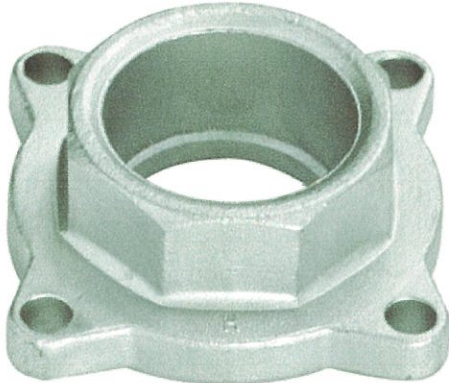

Figure Q2 (a)
- (b) Value engineering (VE) is a systematic method to improve the "value" of goods or products and services by using an examination of function. Value, as defined, is the ratio of function to cost. Predict and explain **FIVE (5)** impacts by extending reverse engineering to value engineering (VE) in organizations (10 marks)
- (d) Reverse engineering is the reproduction of another manufacturer's product following detailed examination of its construction or composition. Explain **TWO (2)** reasons for manufacturer to use reverse engineering. (5 marks)
- (a) A manufacturing company need to complete an order to produce 50 pieces of part as shown in **Figure Q2 (a)** within one week. This part also will be used as a master pattern to create a mould. As a manufacturing engineer;
- (i) Suggest the appropriate rapid tooling method to create the mould for the part shown in **Figure Q2 (a)**. (2 marks)
- (ii) By using appropriate diagram, demonstrate suitable mould fabrication for the part shown in **Figure Q2 (a)**. (15 marks)
- (b) Rapid Tooling (RT) techniques have an important role in many industrial branches. Differentiate between these two rapid tooling terminologies in relation to its definition.